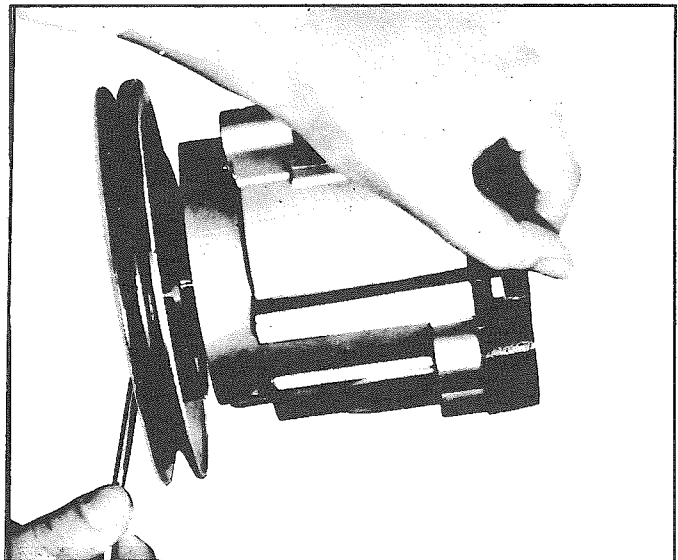

Figure 61 – Filter Fan Installation
1. Install the new filter by drawing it on with the pulley and pulley bolts (see figure 61). Do not attempt to install a filter by hammering it on or pressing it on.
1. With the use of a hydraulic jack and two (2) 5-ton jackstands, raise the front of the vehicle as shown in figure 61.